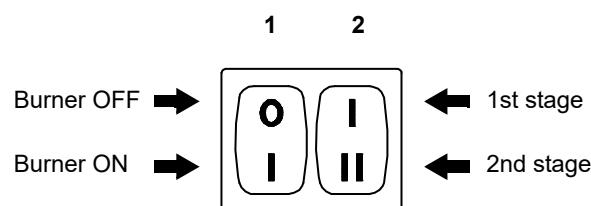

Fig. 25
- switch 1)(Fig. 25) on “**BURNER ON**”;
- switch 2)(Fig. 25) on “**1ST STAGE**”.
In the above description, we left the burner running, operating in the 1st stage. Turn switch 2)(Fig. 25 on page 24) to the 2nd stage position: The servomotor will open the air damper and, at the same time, also the gas butterfly valve opens at 90.
Turn the switch 2)(Fig. 25 on page 24) to the 1st stage position: the servomotor 1)(Fig. 26) will close the air damper and, at the same time, also the gas butterfly valve closes to 15°, i.e. to the factory setting.
- If it is necessary to increase it, pass to 2nd stage by activating the switch 2)(Fig. 25 on page 24) and slightly increase the angle of the orange lever with small, regular movements, i.e. bring it from an angle of 15° to 17° - 19°....
Switch off the burner using the switch 1)(Fig. 25 on page 24), and turn the intermediate screws of the cam so that the inclination of the cam itself is progressive.